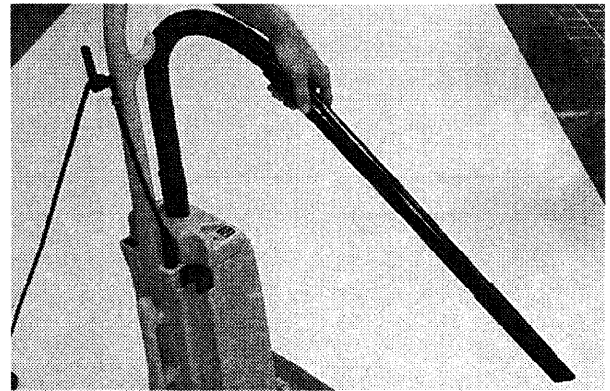

FIG. 11
- Detach wand from retainer clip and attach crevice tool located on carrying handle (Figure 11).